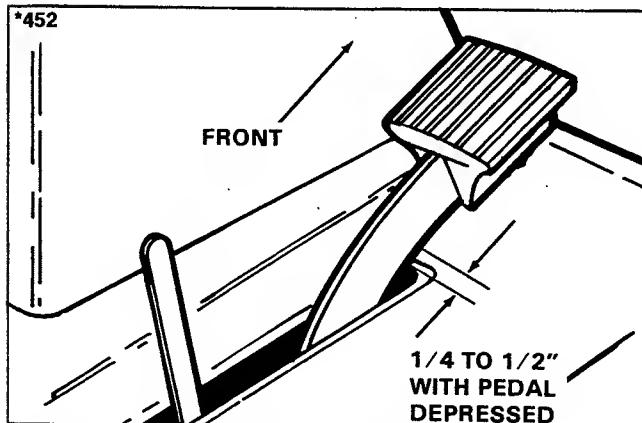
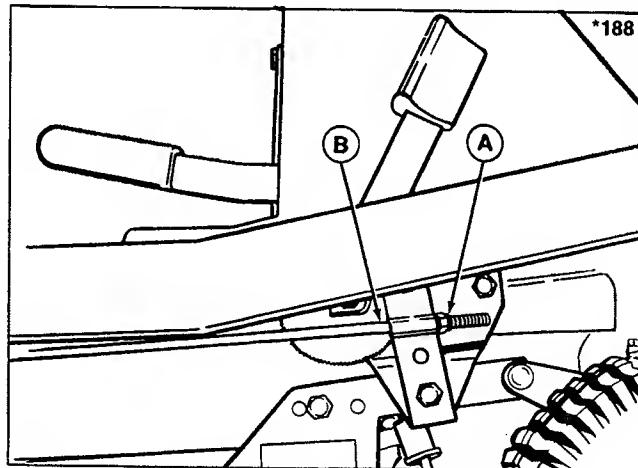

Figure 12. Clutch-Brake Adjustment
Figure 13. Clutch-Brake Adjustment
1. Press the pedal down as far as it will go (use normal braking force). There should be $1/4$ inch to $1/2$ inch clearance between the brake pedal and the front edge of the slot (see figure 12). If not, adjust the locknut (A, figure 13) by turning with a wrench. Move the locknut toward the rear to increase clearance or toward front to decrease clearance. Press the pedal down to recheck clearance. When correct, go on to step 2.